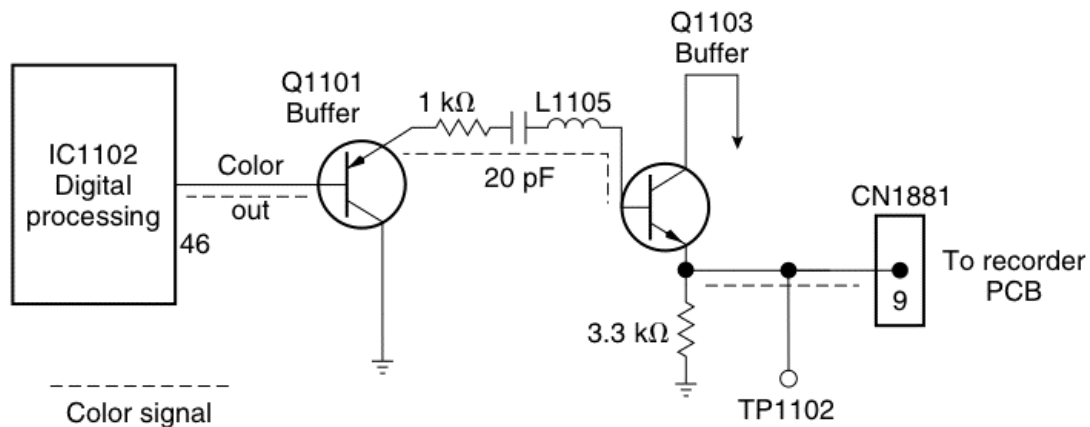

FIGURE 34-11 Typical 8-mm camera chroma-processing circuits.
Typical 8-mm chroma processing circuits The chroma (C) output camera signal is taken from pin 46 of the digital processing IC1102. This C signal is directly coupled to buffer transistor Q1101 (Fig. 34-11). The emitter terminal of pnp transistor is coupled through 1-k Ω resistor/20-pF capacitor, and coil L1105 is coupled to the base of buffer transistor Q1103. The chroma signal is taken from the emitter of Q1103 and directly fed to the connector terminal 9 of CN1881. A color (C) camera output signal waveform can be taken from TP1102 or pin 9 to determine if the camera chroma circuits are functioning.